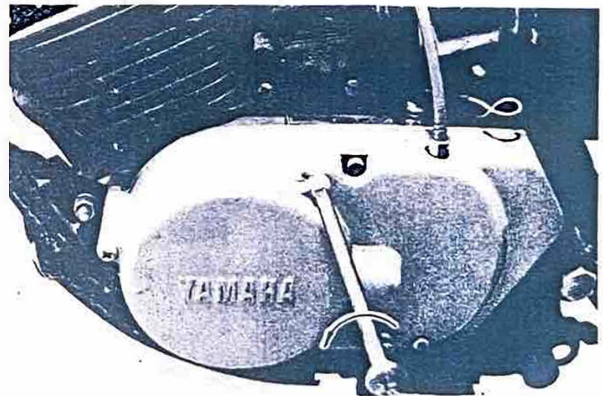

Fig. 4-1-3
- 2) Remove the muffler holding bolts and set the muffler at one side. (Fig. 4-1-3)